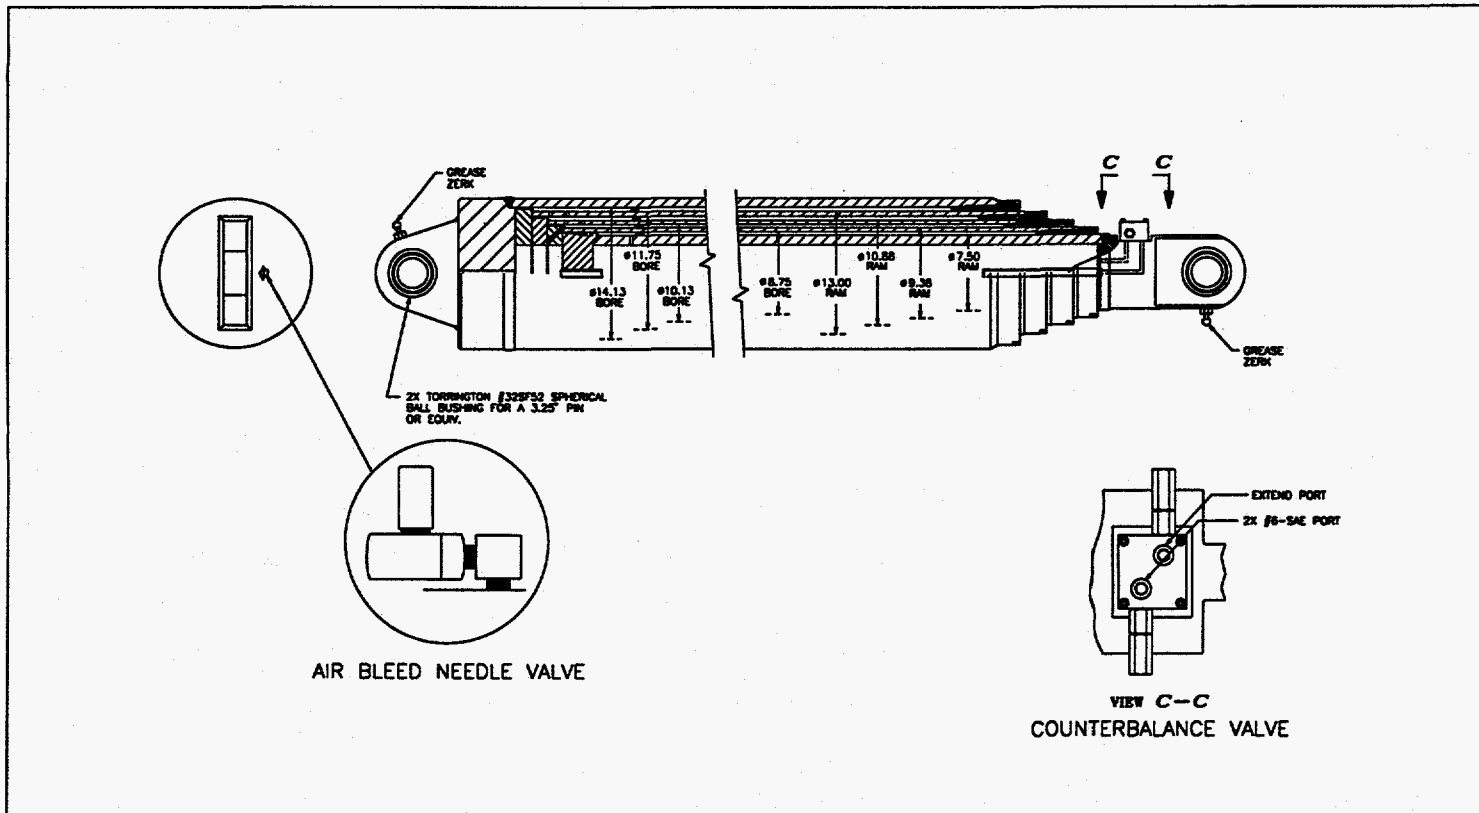

FIGURE 9, TELESCOPIC CYLINDER
- 1 Telescopic cylinder end bearings: Grease both ends through grease zerks (Figure 9, page 21).
- 2 Bleed the extend stage of the cylinder by attaching the bleeder hose assembly to the needle valve on top of the cylinder. Make sure the needle valve at the end of the bleeder hose is closed then open the needle valve located at the top of the cylinder (Figure 9, page 21).
- 5 If signs of air persist through the first three (3) stages of the cylinder translation repeat steps 3 and 4.
- 5 Attach rigging to the cylinder in a manner that will prevent the load from swinging and possibly injuring personnel when the lower pin is removed. Be careful not to damage the counterbalance valve (Figure 9, page 21).
- 1 Hoist the cylinder into position on the trailer and insert the lower pivot pin from the left side (street side) of the trailer. Be carefull not to damage the counterbalance valve (Figure 9, page 21).